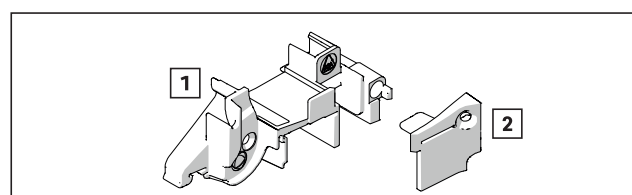
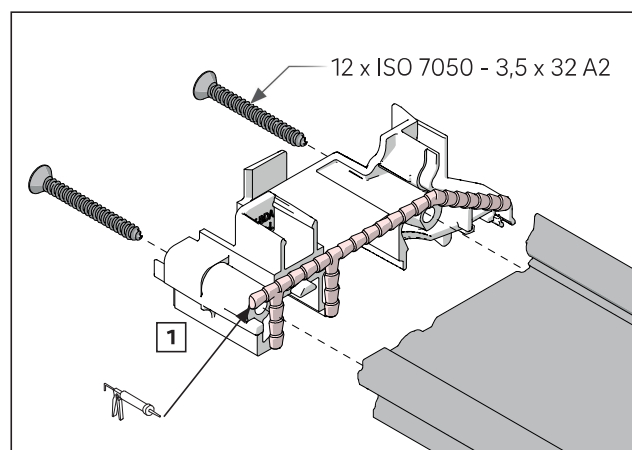

Fig. 2: Two-piece weather rail end cap 1368287/1368288
Fig. 3: Installation of the weather rail end cap on the weather rail and adapter profile
- Each end cap for the adapter profile consists of two parts (fig. 2). Seal part of 1 the end caps 1368287/1368288 to the adapter profile and install with the stainless-steel screws (fig. 3). Part 2 of the end caps will be installed later. The end caps are installed 1 on both sides. Note: Both parts of the end cap are connected to each other for production reasons and must be separated from each other.
- Each end cap for the adapter profile consists of two parts (see page 3, fig. 2). Seal part of  the end caps
1368287/1368288 to the adapter profile and install with the stainless-steel screws (see page 3, fig. 3). Part  of the end caps will be installed later. The end caps are installed  on both sides. Note: Both parts of the end cap are connected to each other for production reasons and must be separated from each other.